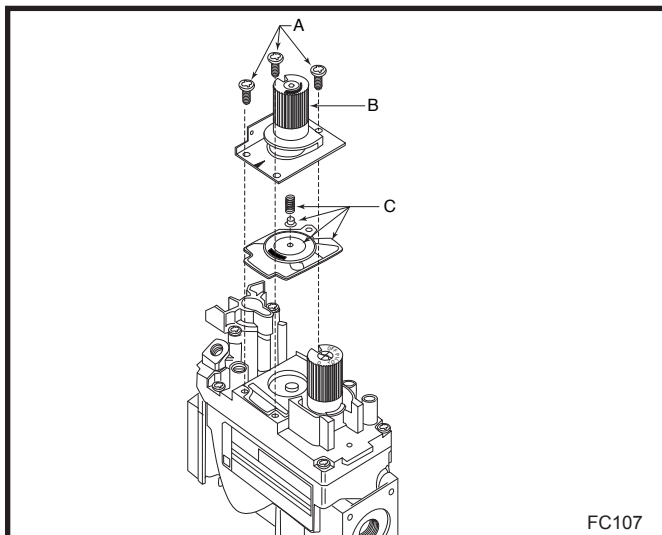

Fig. 73 Remove mounting screws, pressure regulator tower and spring and diaphragm assembly.
1. Using the TORX T20 bit, remove and discard the three (3) pressure regulator mounting screws (A), pressure regulator tower (B) and the spring and diaphragm assembly (C). (Fig. 73)